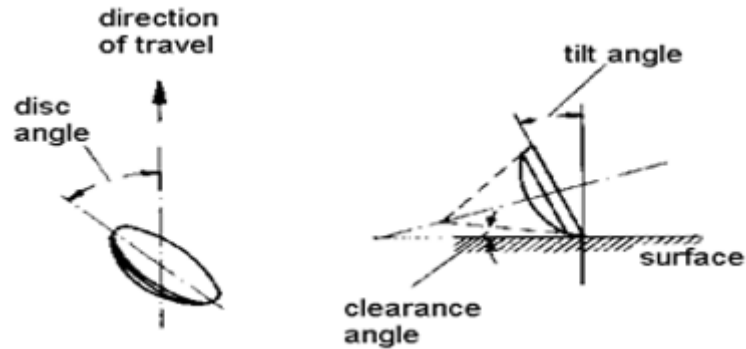

Fig. 3.13: Disc and Tilt angle
- The plane of the disc face is angled at a 42-45° horizontal angle from the direction of travel (Fig.3.13).